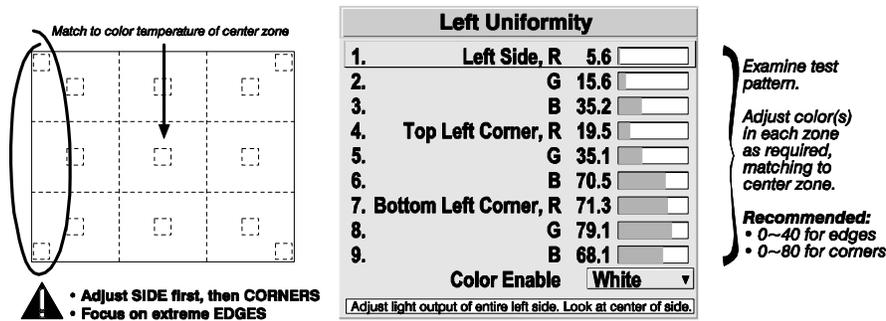

FIGURE 4-23 MATCH ZONES TO CENTER COLOR TEMPERATURE
- b. Return to the *Brightness Uniformity* menu. Beginning with the screen that exhibits the most obvious color shift(s), for each edge that exhibits a noticeably different color temperature from the center, select the corresponding *Uniformity* adjustment menu—*Left, Right, Top* or *Bottom*. For example, if any part of the left side is too blue, too red or too green, go to the *Left Uniformity* menu and adjust the colors (i.e., change their light output) until all portions of the left side closely match the center color temperature. Adjust an edge first (focusing on its center), then adjust its corners. See Figure 4-23 Match Zones to Center Color Temperature.